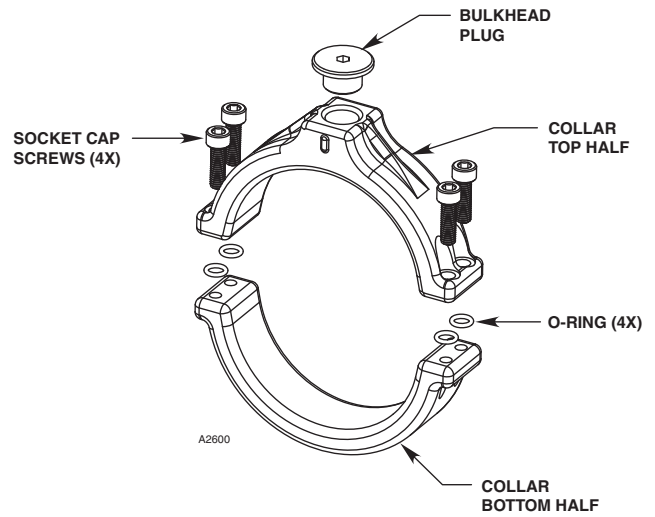

Figure 4—Collar Attachment Assembly
4. The Collar Attachment assembly is made up of two halves — one installed on top, and the other under the detector bulkhead. With the four socket cap screws (provided) held in place with O-rings as shown in Figure 4, place the top half in position on the detector. Then place the bottom half under the detector and tighten the screws using a 5 mm hex wrench (not included). Do not fully tighten the screws at this time.